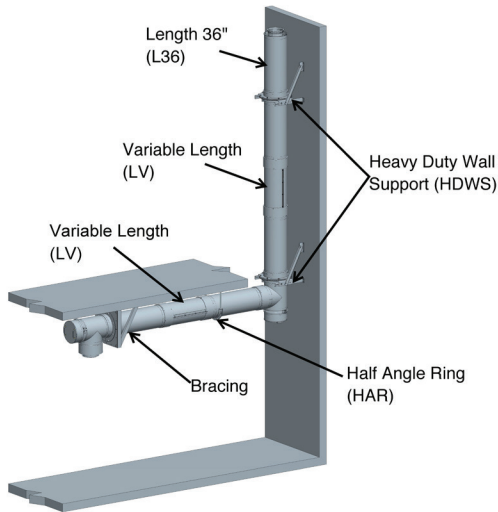

Figure 43: - Typical Installation locations for the Variable Lengths
To prevent the LV from sagging, it is recommended that the duct section adjacent to a LV is supported or guided. See Figure 43 for typical support locations for Variable Length. When necessary, properly guide the Variable Length (LV) by installing a Heavy Duty Wall Guide (WGHD) or any support immediately on the next (upstream) section.